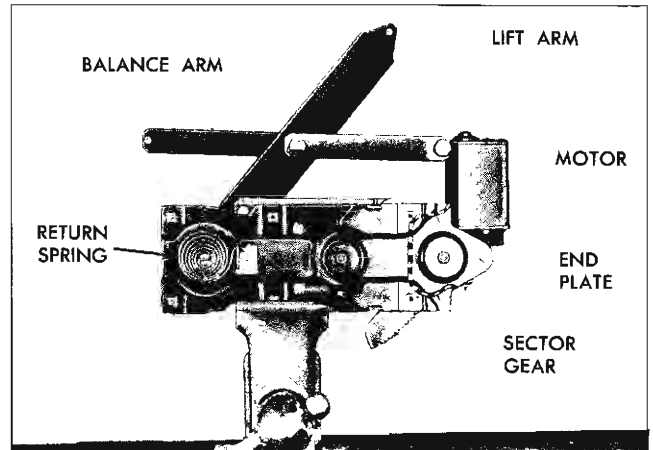

Fig. 3-52 Window Regulator and Motor
4. Remove motor attaching bolts and remove motor assembly from regulator (Fig. 3-52).